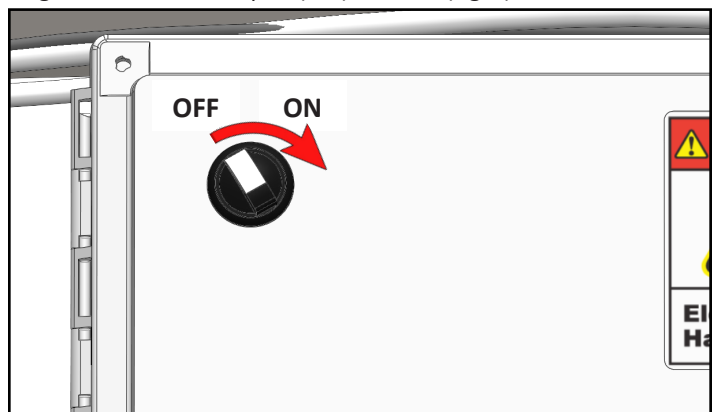

Fig. 8.2: Controller power switch
2. Turn the power switch to “ON” [Figure 8.2]